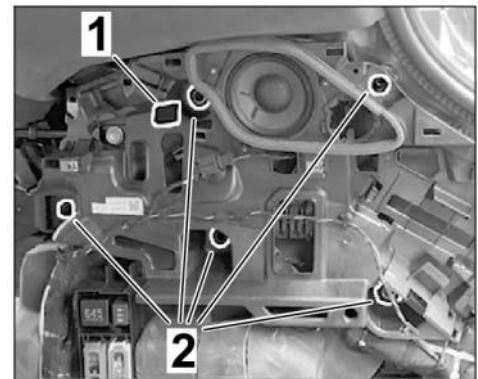

Figure 4
- 2.2 Remove side trim panel ⇒ *Figure 4 -1-* at the right. Loosen screws ⇒ *Figure 4 -2-* and remove trim panel.